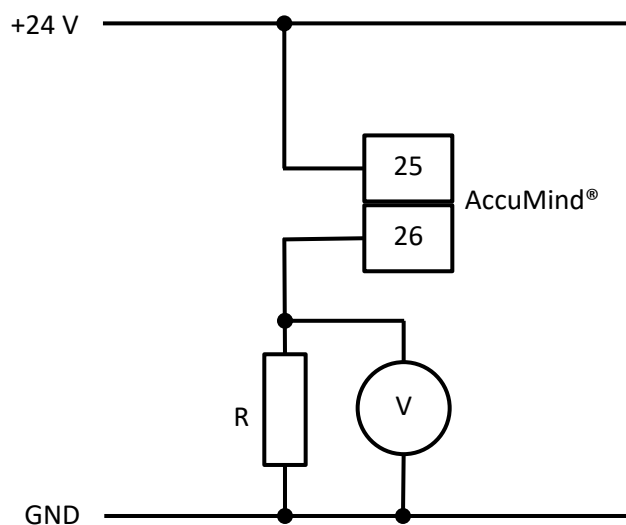

Figure 19: Connection recommendation for 1st electronic relay
The AccuMind® offers two electronic relays/switches. These are used, for example, for the output of status signals or as frequency/pulse outputs. The following applies to an AccuMind® disconnected from the supply voltage independently of the parameterization: S1 is open (NO) and S2 is closed (NC). For the parameterization of the electronic relays see 9.2.4. Figure 19 shows a connection recommendation for the 1st electronic relay. The resistance R should be 5 to 10 kΩ. The 2nd electronic relay is connected in the same way.